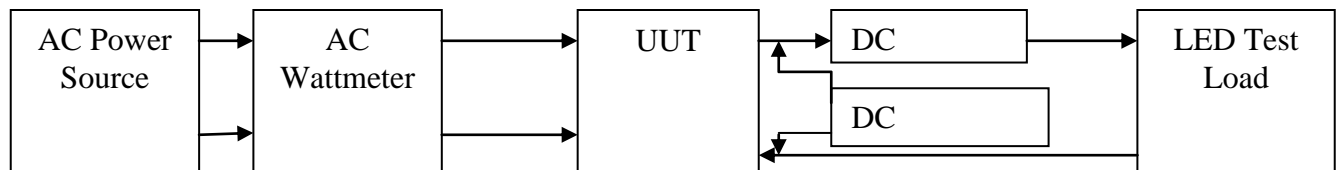

Figure 1. Test Set Up
2. Connect the Unit Under Test (UUT) per the test set up in Figure 1.
Connect the UUT per figure 1